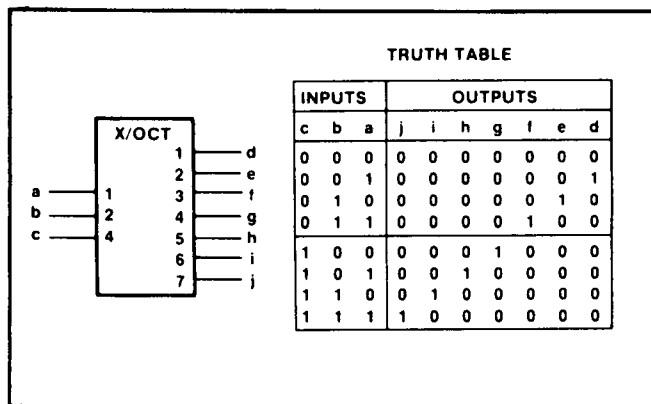

Figure 8-27. An X-Octal Code Converter
b. Replacing Y by an appropriate indication of the output code and labeling the outputs with characters that refer to this code as in *Figure 8-27*.